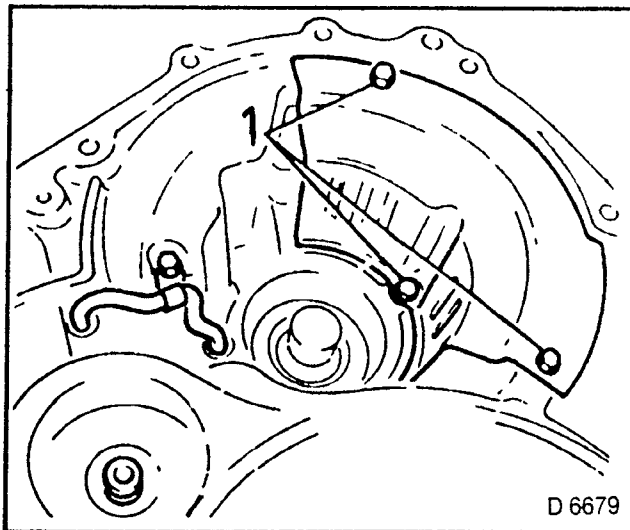

Fig 274
4. Fifteen bolts of auxiliary housing from main housing (1).
6. Fluid filter (3), fluid retaining plate from auxiliary housing three bolts, Fig. 274, Item (1).